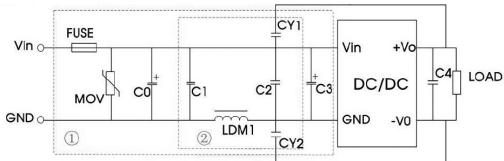

Fig. 7
Notes: We use Part ① in Fig. 7 for immunity and part ② for emissions test.